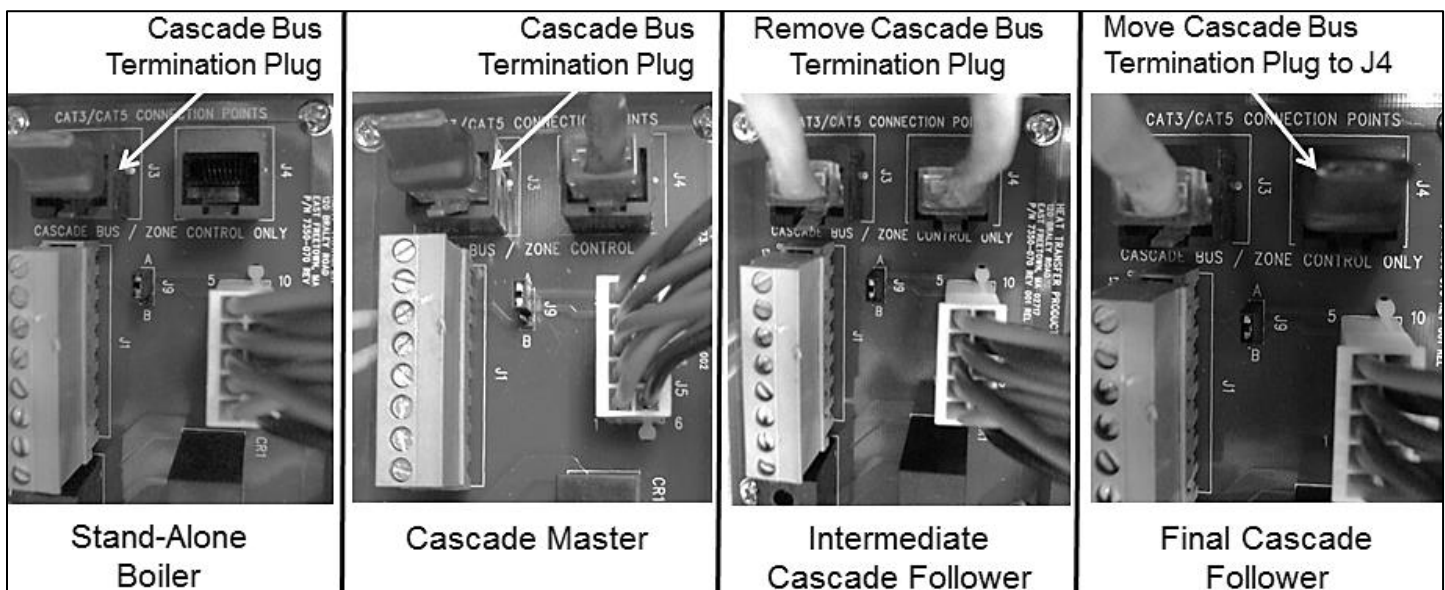

Figure 30 – Cascade Resistor Plug Installation Detail
1. A Cascade Bus Termination Plug has been installed on the customer connection board of this boiler. The purpose of this plug is to stabilize communication between multiple boilers and reduce electrical "noise". See Figures 30 and 31 for Cascade Bus Termination Plug installation detail.